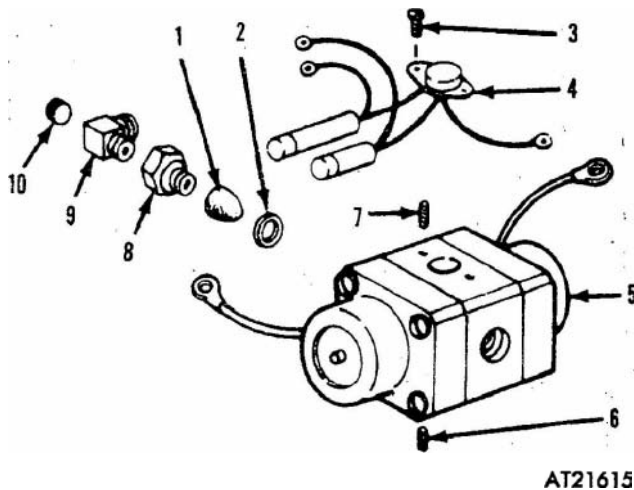

Figure 3-242. Regulator valve assembly, exploded view.
(20) Disconnect sintered filter (1, fig 3-242), gasket (2), filter body (8), metering orifice (9), and plug (10) from regulator valve (5).
(1) Assemble regulator valve assembly (11) by performing (2) through (4) below.
(2) Install setscrews (6 and 7, fig 3-242).
(3) Connect heater valve assembly (4) to regulator valve (5) and secure with screw (3).
(4) Connect sintered filter (1), gasket (2), filter body (8), metering orifice (9), and plug (10) to regulator valve (5).